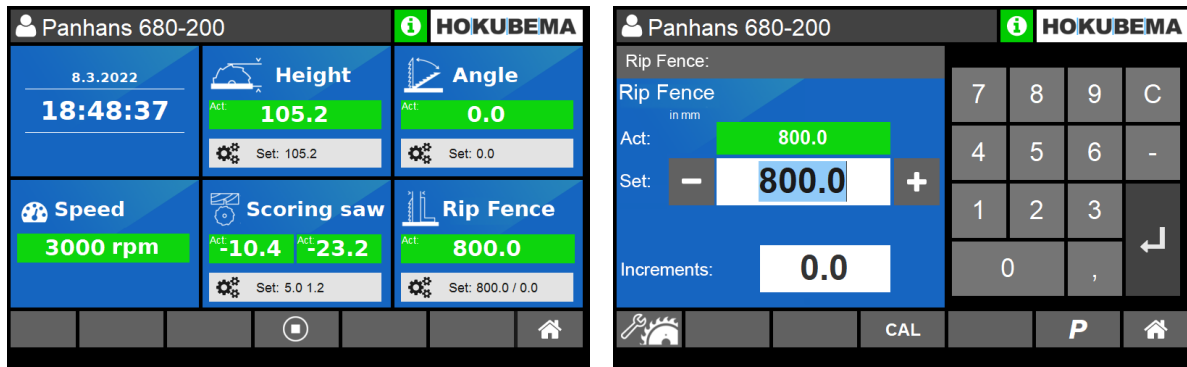

Figure 43: Rip fence positioning
1. To be able to fold away the rip fence, select the symbol **P** (see ⇒ Figure 43).
3. Then press the positioning button (2)
1. To calibrate the rip fence, select the button **CAL** (see ⇒ Figure 43).
3. When the positioning button (2) flashes, press the button.
1. To enter an offset value press the button  (see ⇒ Figure 43 on the right).